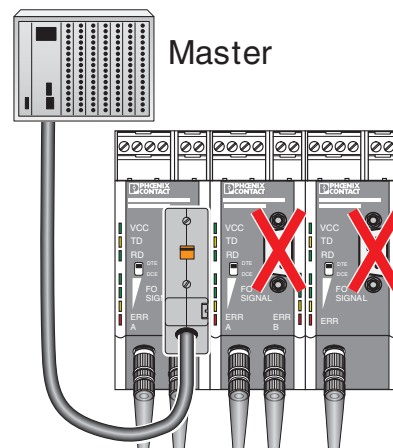

Figure 12 Connecting the data cables
- Connect the RS-232 connection via the D-SUB 9 pin strip on the top of the device (see Figure 12).